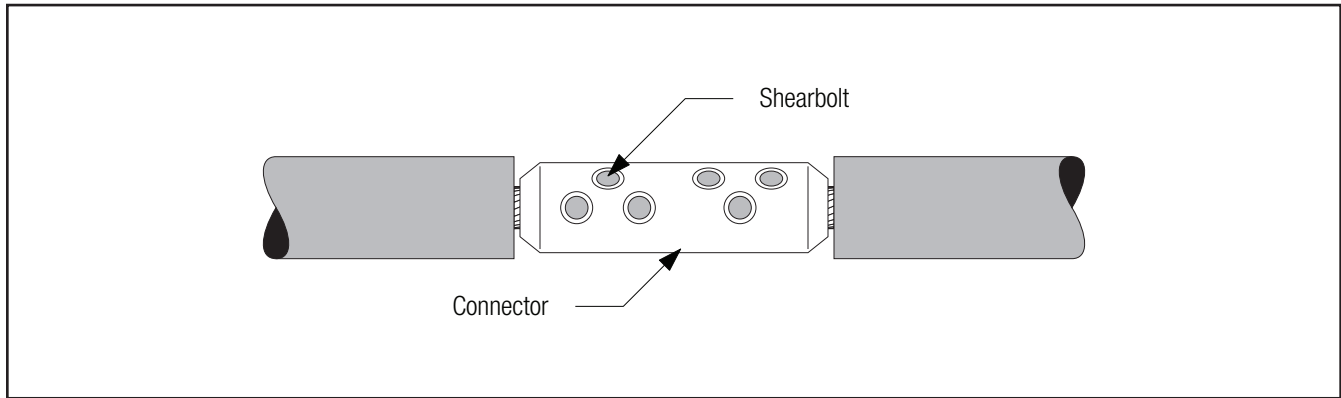

Figure 9
3.2 Install 3M™ Shearbolt Connector QCI 500-1000 according to the instructions included with the connector (Figure 9).